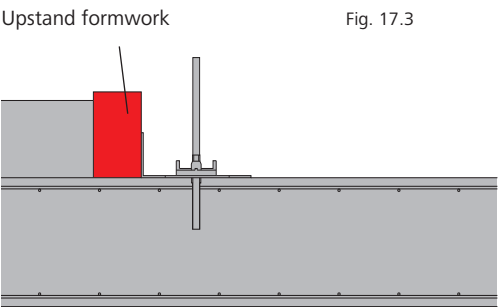

Fig. 17.4
3. Screw the facing to the upstand bracket or place the wall formwork panel against it (Fig. 17.4).